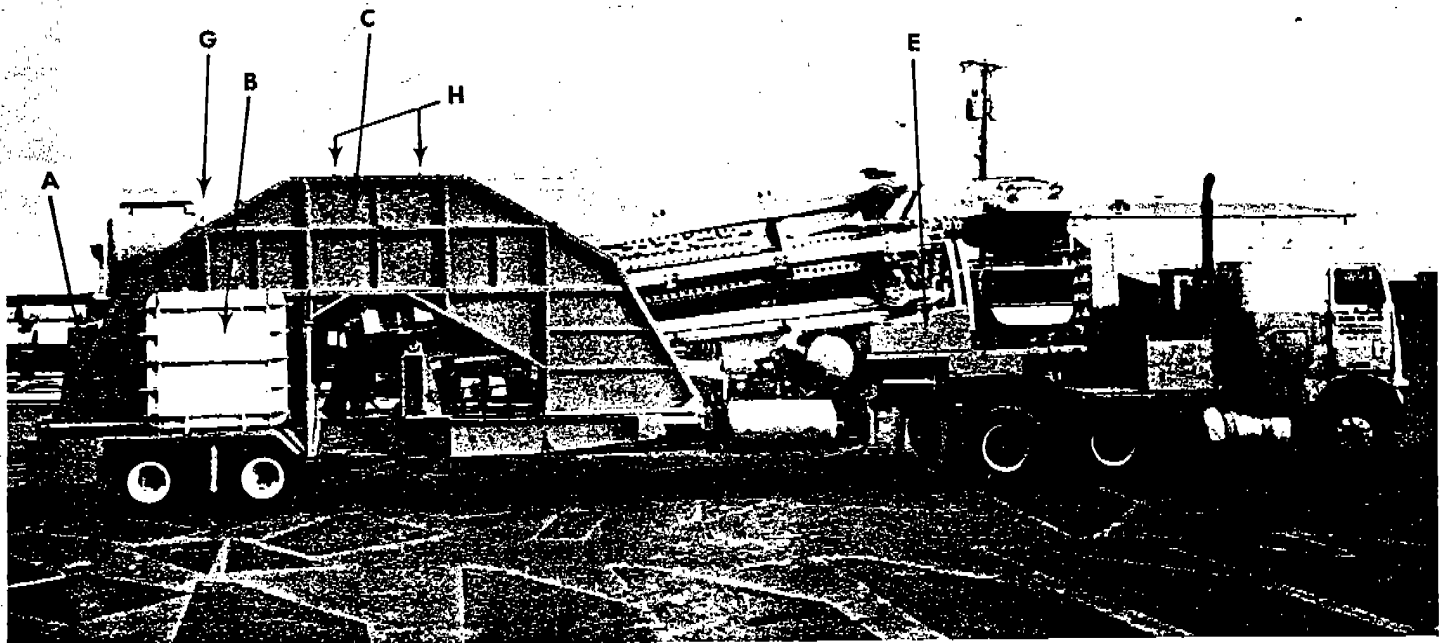

Fig. 1
- Unlock the trailer stabilizers from storage position. (Refer to Fig. 1-d)